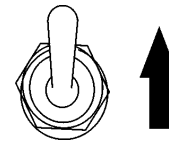

Figure 13. Operation Switch (ON Position)
4. Place the generator's **operation switch** (Figure 13) in the "ON" position.